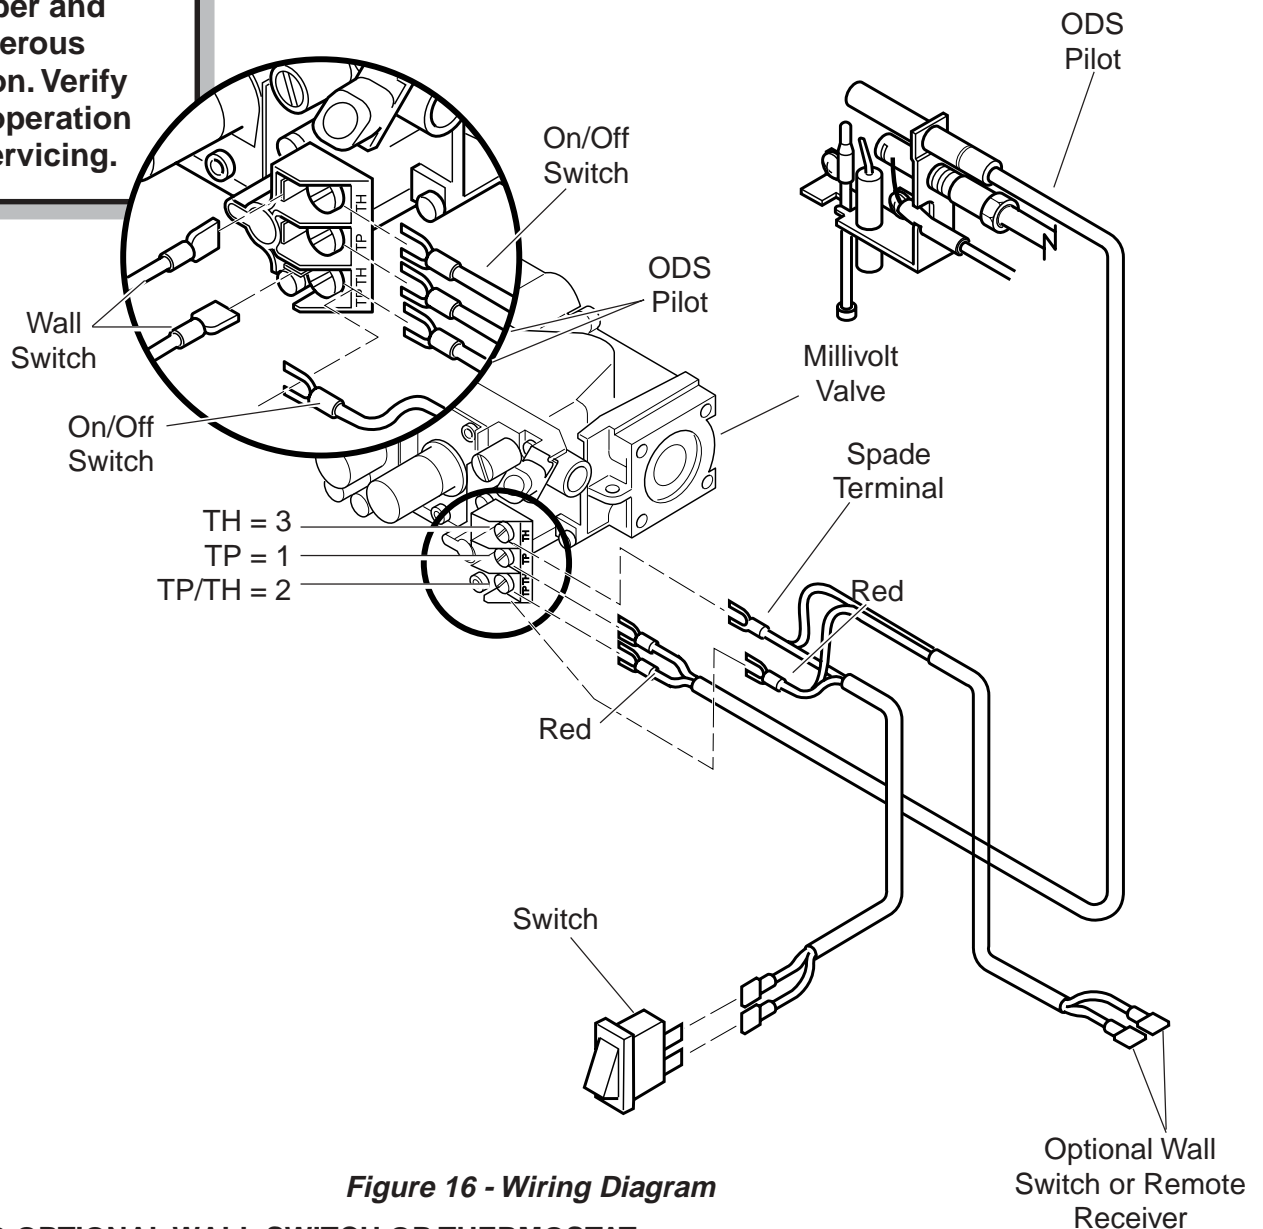

Figure 16 - Wiring Diagram
5. Connect the connectors to the two .25" male connectors located on the left side when facing the unit (See Figure 16, page 19). Do not let wire touch grate or burner.